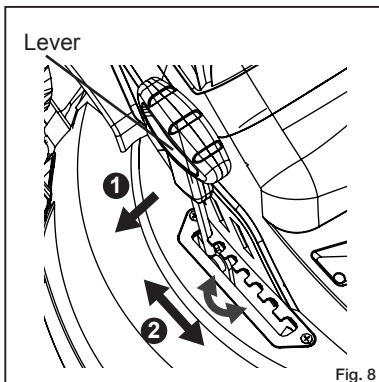

Fig. 8
NOTE: Refer to figure 8.
- To **ADJUST** the blade height, grasp the height adjustment lever, pull to the side and move it forward (1).
- To **LOWER OR RAISE** the blade height, move the lever as shown in Fig 8. Height of the mower can be lowered by moving the lever in forward direction and raised by moving it in backward direction (2).